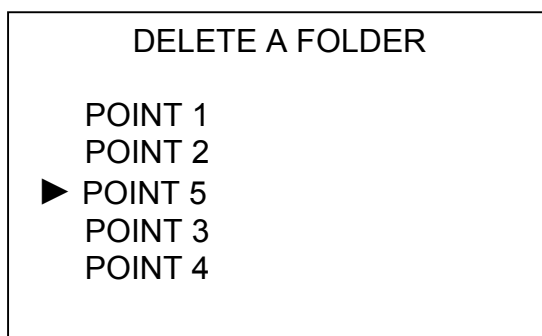

Figure 1.22
d) Figure 1.22 shows the **DELETE A FOLDER** screen.